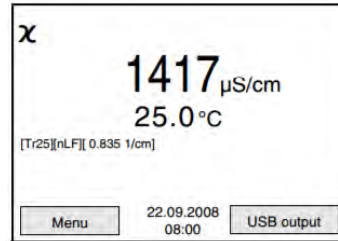

Figure 60: Display of cond3310 during measurement with nonlinear temperature compensation with a reference temperature of 25 degrees.
2. Under the conductivity and temperature values, information about the type of measurement is given, see Fig. 60. The first  determines whether the measurement is temperature compensated or not (TrOff or Tr25, we need both). The second  shows what kind of temperature correction is used (linear or nonlinear). For natural waters, like the Zackenberg River, it should be nonlinear (nLF).